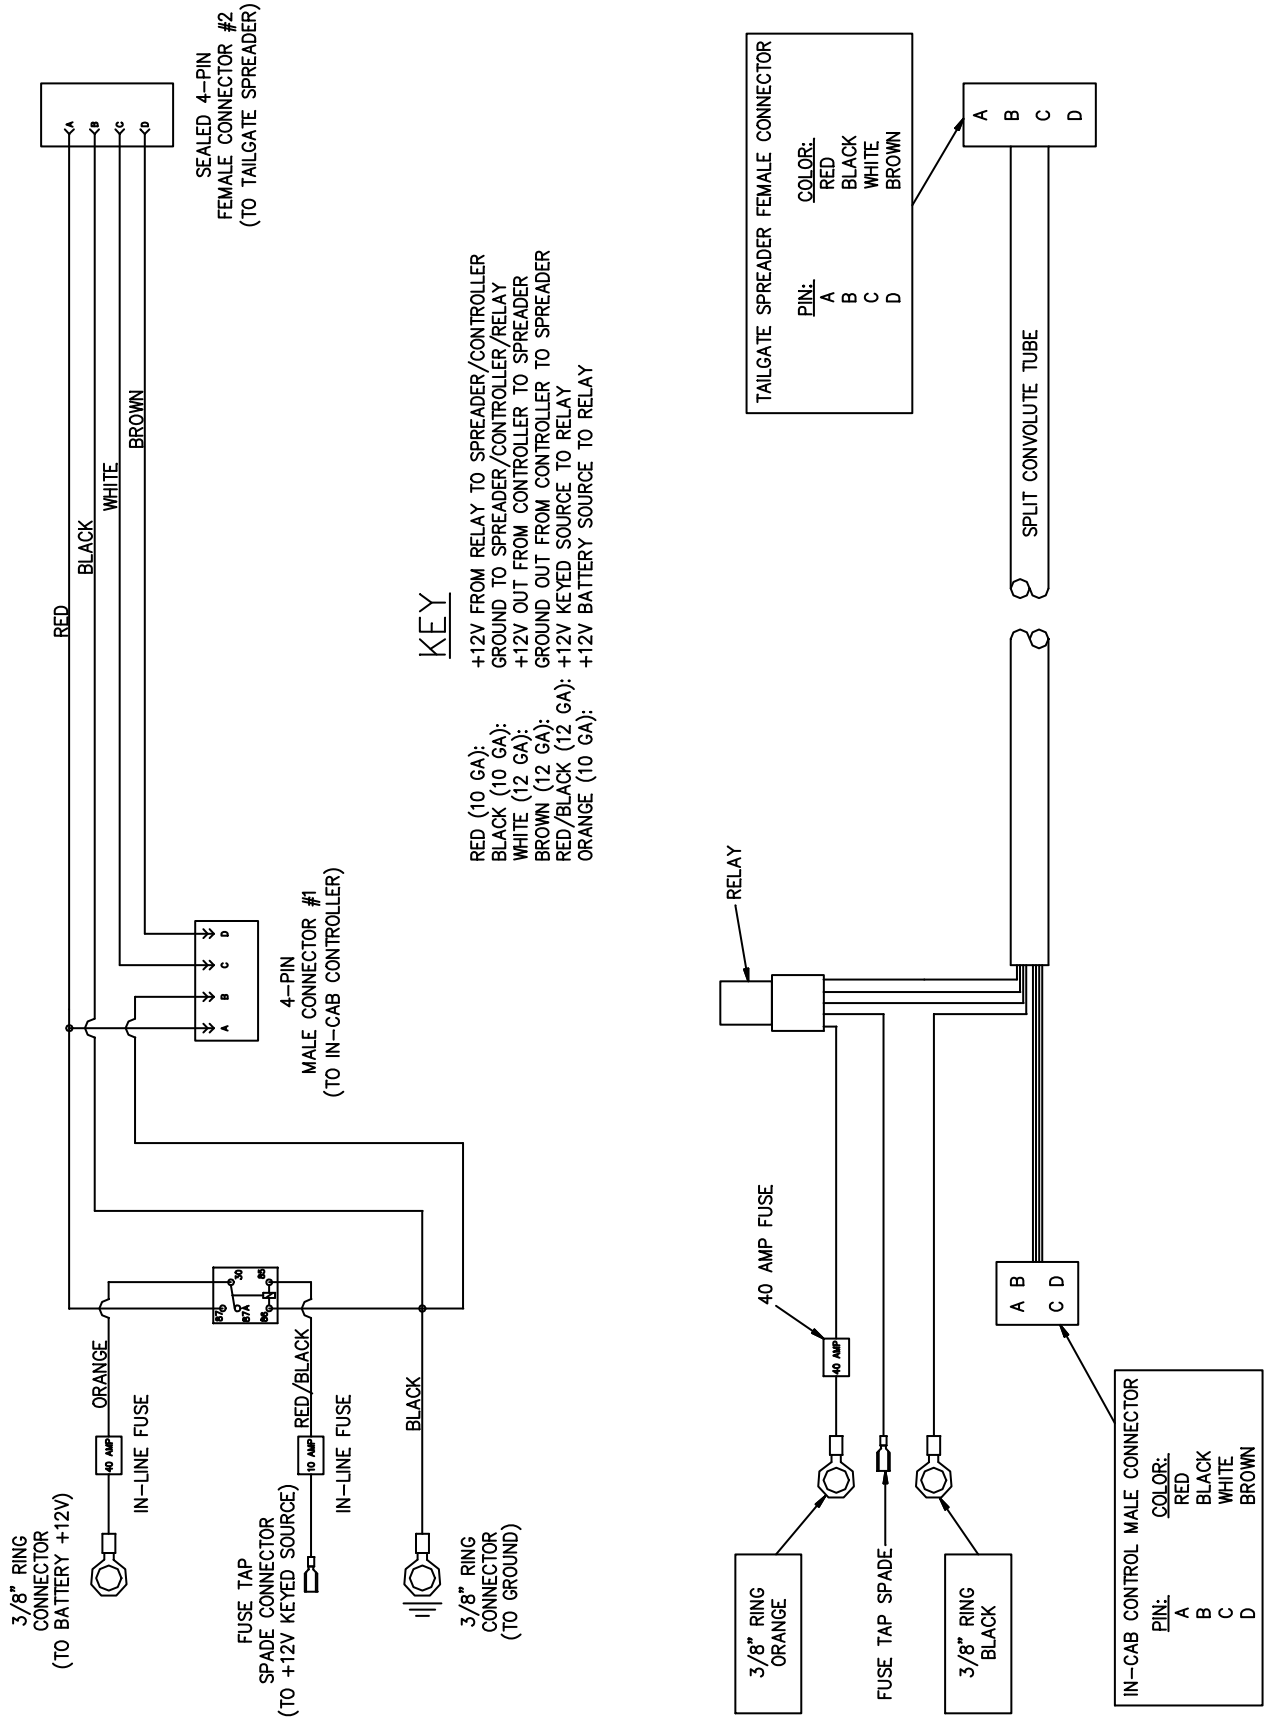

Figure 2. Vehicle Side Harness Diagram (TGS05810)
- 1) Refer to Figure 2. Begin at the rear of the vehicle. Secure the 4-pin, sealed connector (Female Connector #2) near the center of the rear bumper using Zip Ties (MSC04088).